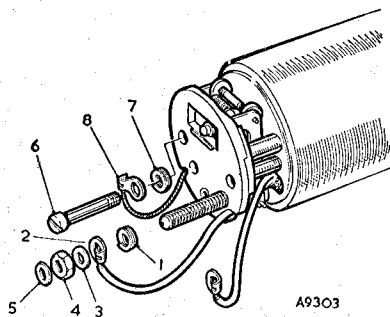

Fig. 4. Attaching the pedestal to the coil housing
3. Assemble the 2 B.A. spring washer (1) (Fig. 4), and put the terminal stud through the 2 B.A. terminal tag (2), then fit the lead washer (3) and the coned nut with its coned face to the lead washer. (This makes better contact than an ordinary flat washer and nut.) Tighten the 2 B.A. nut and finally add the end-cover seal washer (5).
4. Assemble the pedestal to the coil housing (Fig. 4) by fitting the two 2 B.A. pedestal screws (6), ensuring that the spring washer (7) on the left-hand screw (9 o'clock position) is between the pedestal and the earthing tag (8). When a condenser is fitted, its wire clip base is placed under the earthing tag and the spring washer is dispensed with.
5. Tighten the screws, taking care to prevent the earthing tag (8) from turning, as this will strain or break the earth-